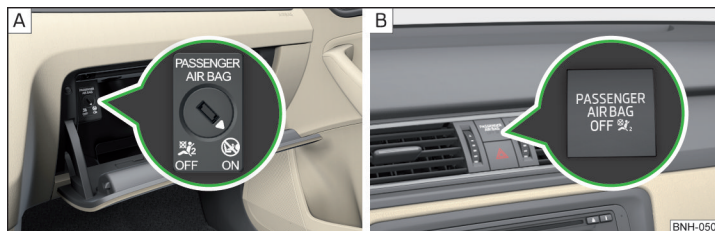

Fig. 12 Key-operated switch for the front passenger airbag / warning light for front seat passenger airbag deactivation
- > The warning light  » Fig. 12 on page 20 -  comes on after the ignition has been switched on.
- › Use the key to turn the slot of the key switch carefully into the position **OFF** » Fig. 12 - **A**.
- › Check that the warning light **OFF**  under the text **PASSENGER AIR BAG** » Fig. 12- **B** lights up after the ignition is switched on.
- › Use the key to turn the slot of the key switch carefully into the position **ON** » Fig. 12 - **A**.
- › Check that the warning light **OFF**  under the text **PASSENGER AIR BAG** » Fig. 12- **B** does not light up after the ignition is switched on.